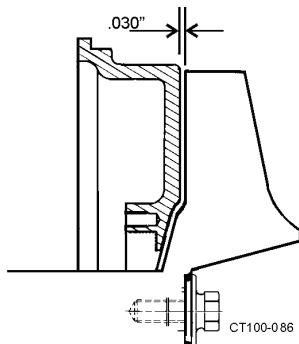

Figure 44 - Clearance Between Impeller and Backplate
22. Check the impeller/backplate clearance with the backplate held firmly in position against motor adapter. Check the space between the back of the impeller and the backplate with a feeler gauge (.030 nominal) while holding the backplate tight against the bearing housing flange. (Any axial movement of the shaft should not be added to the .030 nominal clearance). See Figure 44.